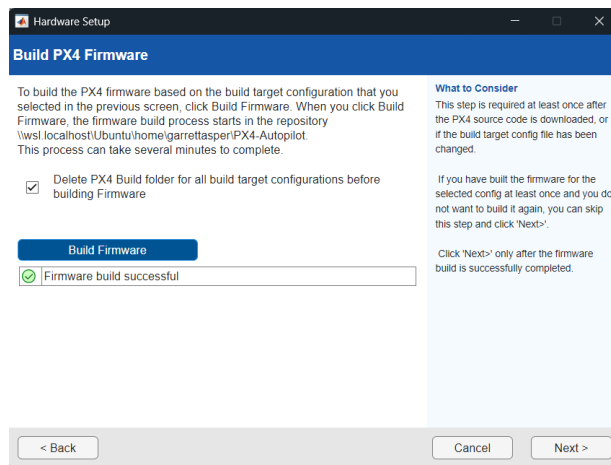

Figure B.13: Screenshot of the successful build PX4 firmware window.
15. A green checkmark will appear in the window when the firmware has built successfully as shown in Figure B.13.